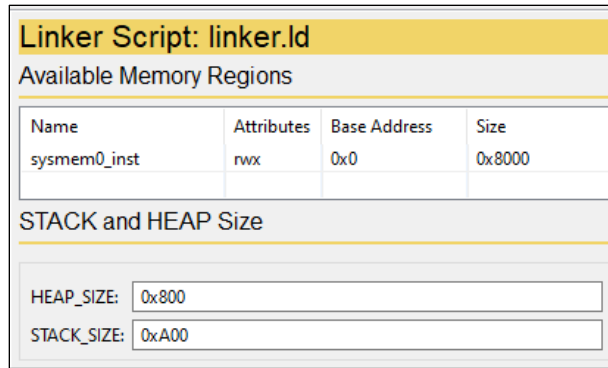

Figure 5.17. Changing Linker Script Heap Size
3. Change the **HEAP_SIZE** value. You can set the value to 0x800 as shown in the example in Figure 5.17.